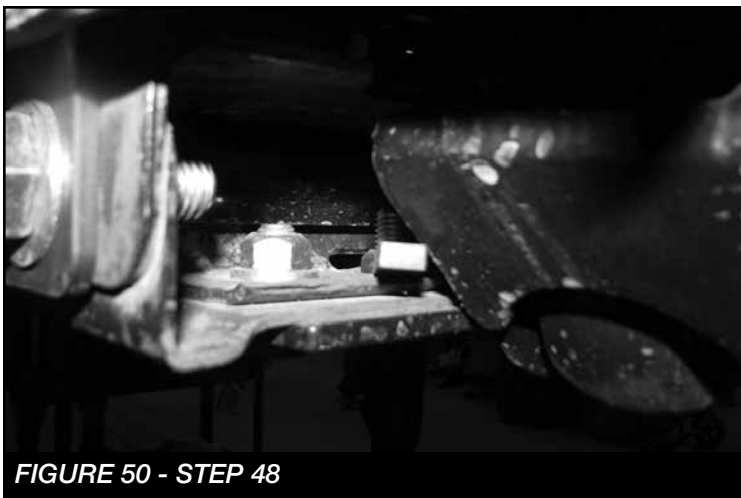

FIGURE 50 - STEP 48
48. Next for the passenger side locate FT30182 (nut tab) (2) 1/2-13 X 1-1/2", washers and (1) 1/2" C-lock nut. Toque to 90 ft-lbs. **SEE FIGURE 50**